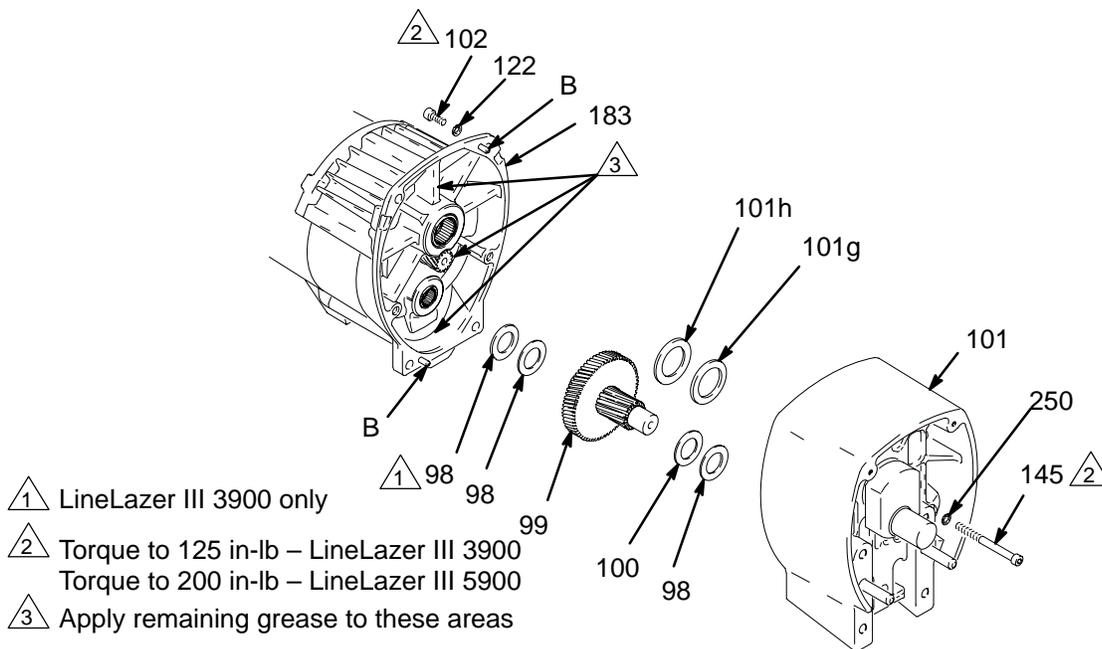

Fig. 3
2. Fig. 3. Remove bearing housing. Do 1. through 8. of **Bearing Housing and Connecting Rod** procedure on page 8.
3. Fig. 3. Disconnect gallon counter sensor at (A). **Cut tie wrap holding gallon counting sensor wire to clutch wire.**
4. Fig. 3. Remove two screws (145) and lockwashers (122).
5. Remove four screws (102) and lockwashers (122) from pinion housing (183).
6. Lightly tap around drive housing (101) to loosen drive housing. Pull drive housing straight off pinion housing. Be prepared to support gear cluster (99), which may also come out.
6. Fig. 3. Install bearing housing. Do 1. through 6. of **Bearing Housing and Connecting Rod** procedure on page 8.